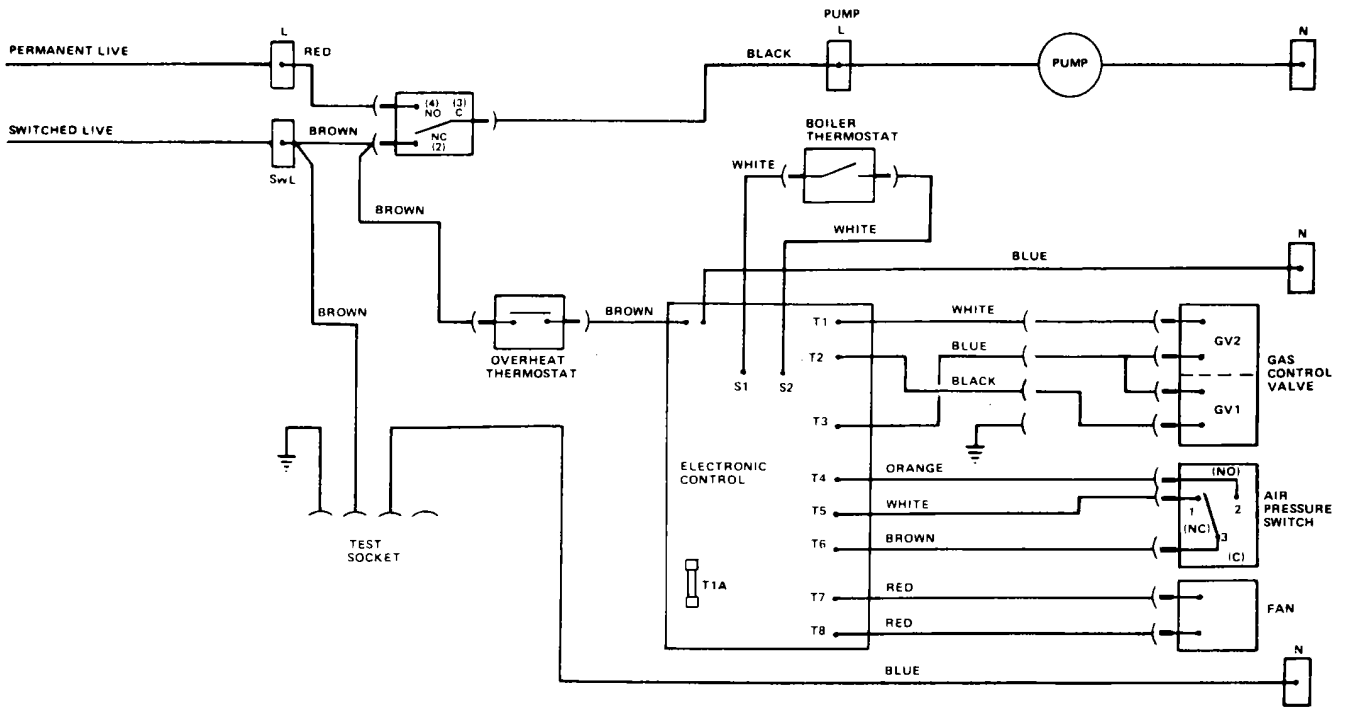

FIG 26 FUNCTIONAL FLOW DIAGRAM
Refer to Fault Finding Chart FIG. 30 and Wiring Diagram FIGS. 26, 27.
- 4. Disconnect the electrical supply wires from the gas control valve noting their position. Refer to FIGS. 26 & 27.